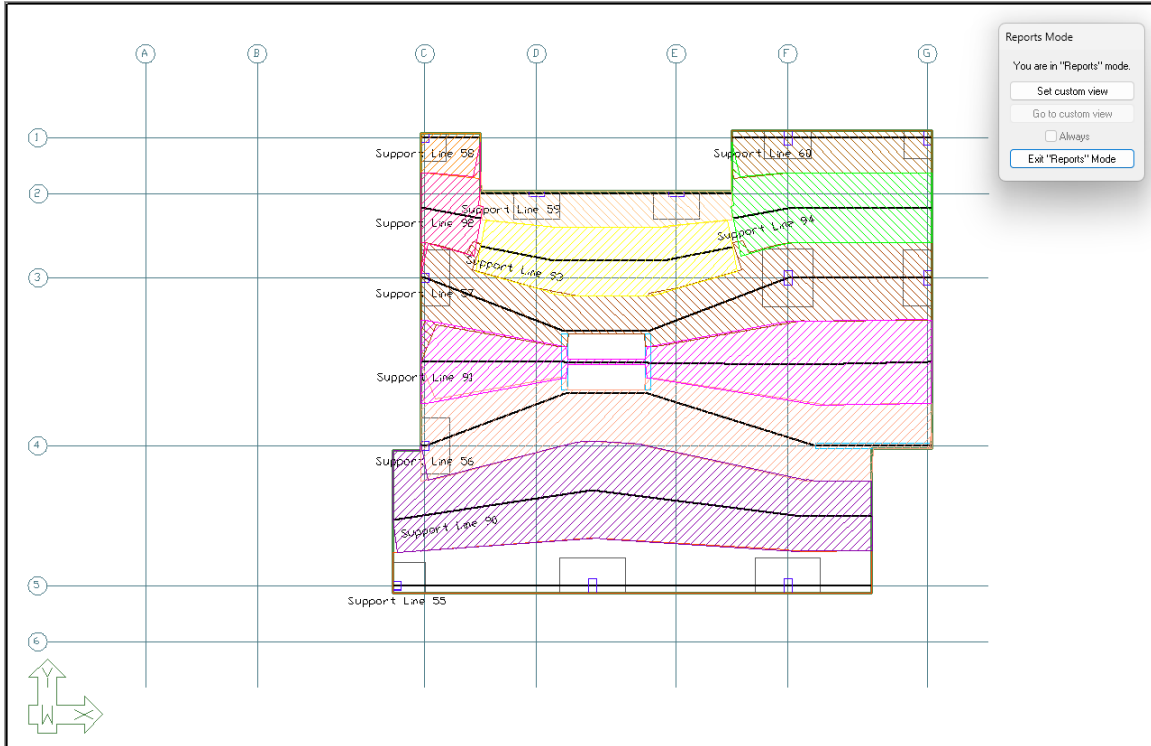

FIGURE 10-17
- Click **OK** on the next window that opens to view the report. The user’s screen should appear like **FIGURE 10-17**.